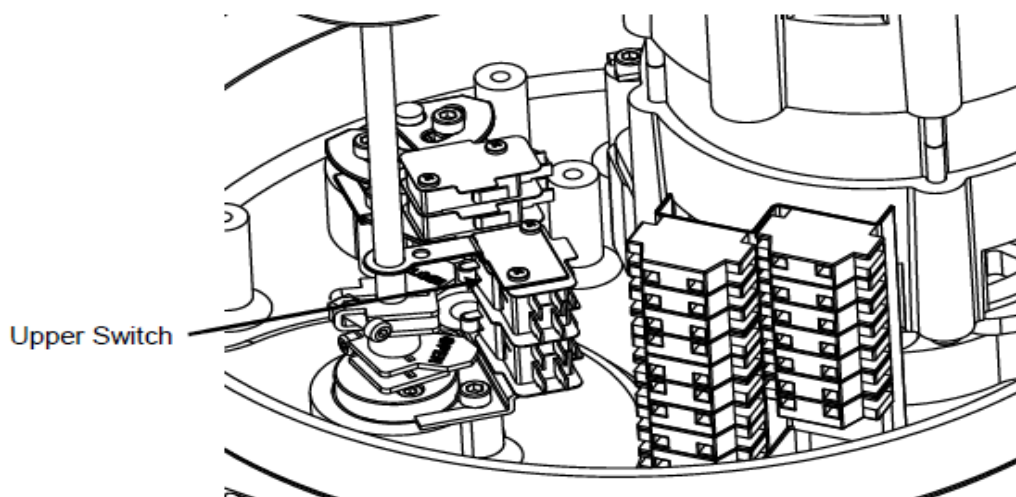

Figure 1: Close Cam Setting
- Rotate the CLOSE cam CW until the limit switch 'clicks' (see Figure 1)